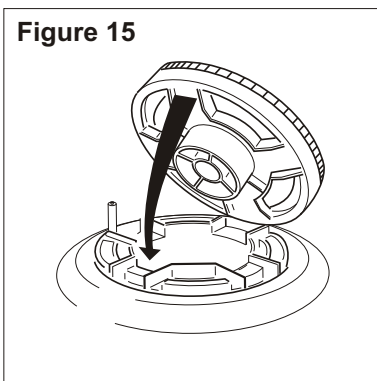

Figure 15
- The triple-ring burner must be correctly positioned (fig. 15); the burner rib must be enter in the logement as shown by the arrow.